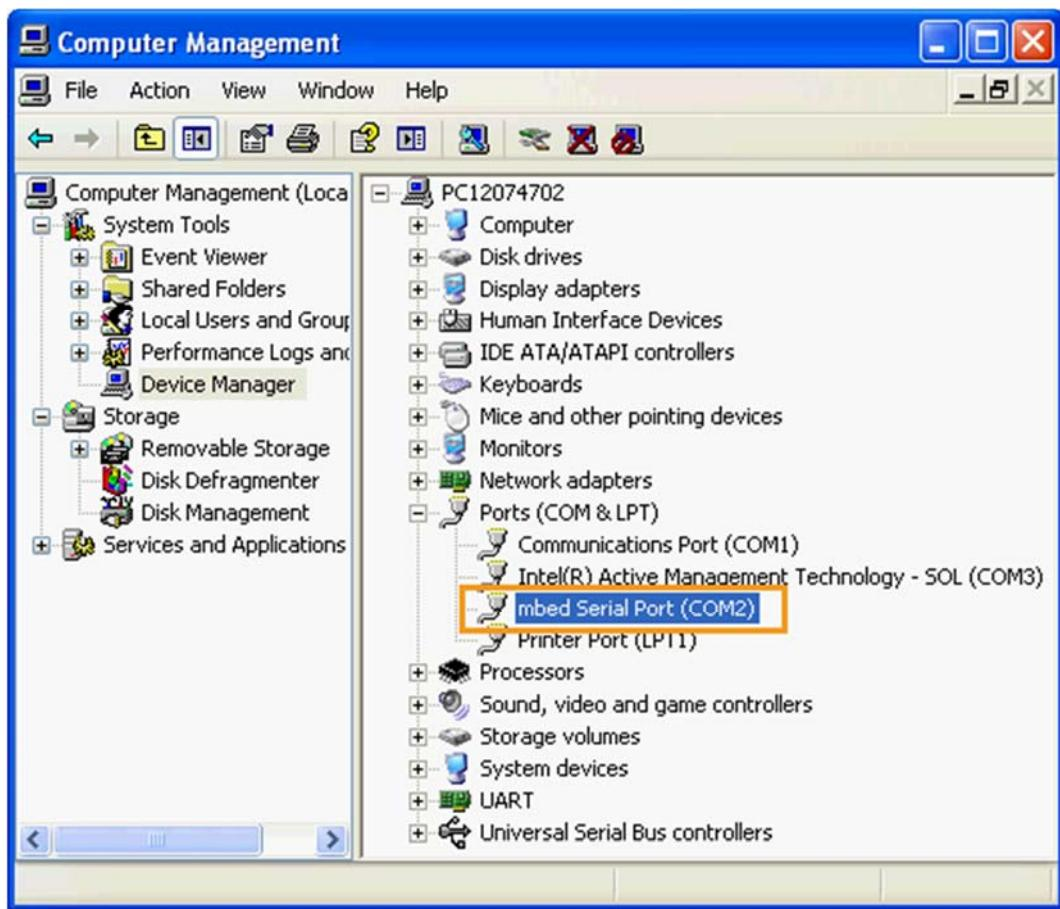

Figure 19. mbed Serial Port
- 4) In **Device Manager**, navigate to **Ports (COM & LPT)** (see Figure 19).